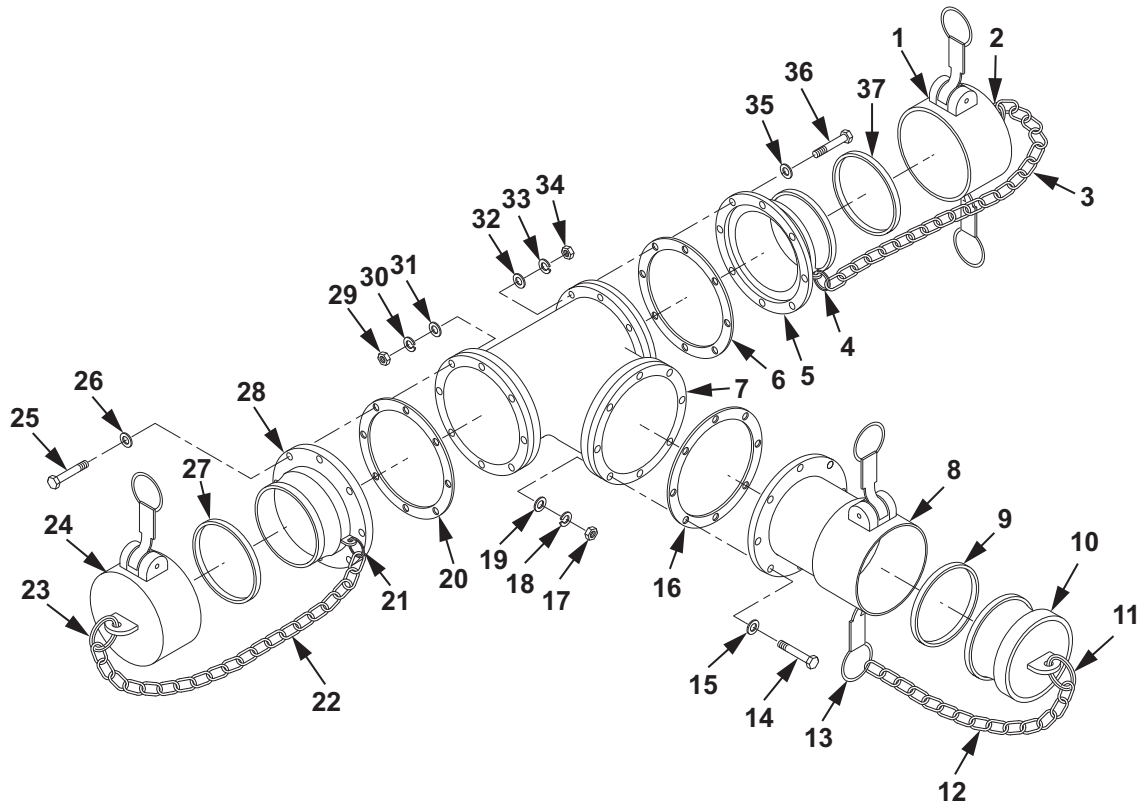

Figure 1. 4 In. Male X 4 In. Male X 4 In. Female Tee Disassembly.
3. Remove quick disconnect dust cap (Figure 1, Item 24) and gasket (Figure 1, Item 27) from coupling (Figure 1, Item 28).
4. Discard gaskets (Figure 1, Item 9, 27, 37).
5. Remove eight nuts (Figure 1, Item 34), lockwashers (Figure 1, Item 33), washers (Figure 1, Item 32), screws (Figure 1, Item 36), washers (Figure 1, Item 35), coupling (Figure 1, Item 5) and gasket (Figure 1, Item 6) from tee (Figure 1, Item 7).
6. Discard gasket (Figure 1, Item 6) and lockwashers (Figure 1, Item 33).
7. Remove eight nuts (Figure 1, Item 17), lockwashers (Figure 1, Item 18), washers (Figure 1, Item 19), screws (Figure 1, Item 14), washers (Figure 1, Item 15), coupling (Figure 1, Item 8) and gasket (Figure 1, Item 16) from tee (Figure 1, Item 7).
8. Discard gasket (Figure 1, Item 16) and lockwashers (Figure 1, Item 18).
9. Remove eight nuts (Figure 1, Item 29), lockwashers (Figure 1, Item 30), washers (Figure 1, Item 31), screws (Figure 1, Item 25), washers (Figure 1, Item 26), coupling (Figure 1, Item 28) and gasket (Figure 1, Item 20) from tee (Figure 1, Item 7).
10. Discard gasket (Figure 1, Item 20) and lockwashers (Figure 1, Item 30).
11. Remove split ring (Figure 1, Item 2) from quick disconnect dust cap (Figure 1, Item 1).
12. Remove split ring (Figure 1, Item 2) from chain (Figure 1, Item 3).
13. Remove split ring (Figure 1, Item 4) from coupling (Figure 1, Item 5).
14. Remove split ring (Figure 1, Item 4) from chain (Figure 1, Item 3).
15. Remove split ring (Figure 1, Item 11) from quick disconnect dust plug (Figure 1, Item 10).
16. Remove split ring (Figure 1, Item 11) from chain (Figure 1, Item 12).
17. Remove split ring (Figure 1, Item 13) from coupling (Figure 1, Item 8).
18. Remove split ring (Figure 1, Item 13) from chain (Figure 1, Item 12).
19. Remove split ring (Figure 1, Item 23) from quick disconnect dust cap (Figure 1, Item 24).
20. Remove split ring (Figure 1, Item 23) from chain (Figure 1, Item 22).
21. Remove split ring (Figure 1, Item 21) from coupling (Figure 1, Item 28).
22. Remove split ring (Figure 1, Item 21) from chain (Figure 1, Item 22).